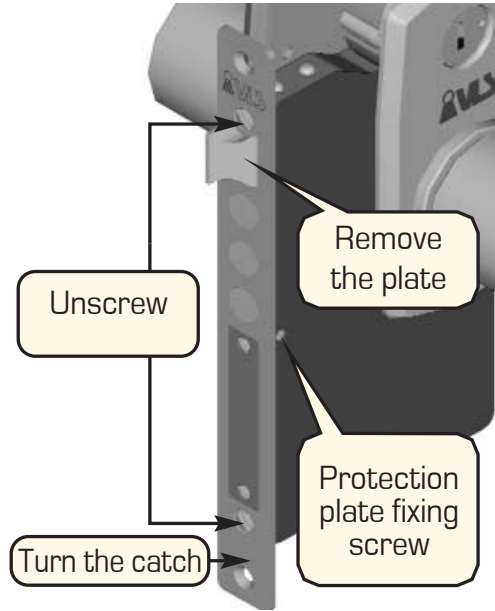

Figure 8 – Turning the catch
1. If required, in order to set a necessary position of the lock catch, unscrew two screws (fig. 8), remove the plate and place the catch into the proper position. Replace the plate and screw it. **It is not required to remove the lock cover in order to turn the catch.**